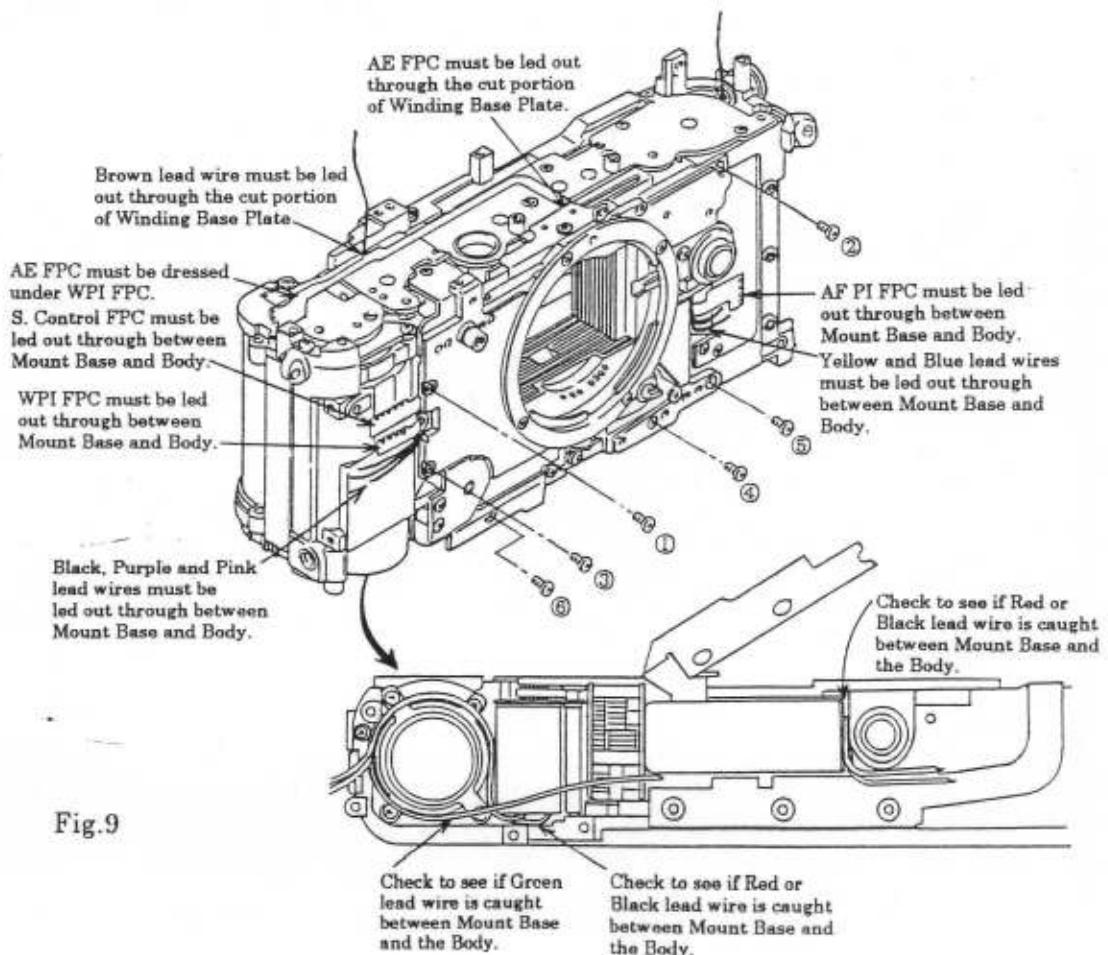

Fig.9
- c) Tighten the Mount Base Ass'y Setscrews in the order of ① to ⑥ as shown in Fig. 9.
## \* After installing the Mount Base Ass'y in the Body, make certain that the lead wires and FPCs are dressed as shown in Fig. 9.